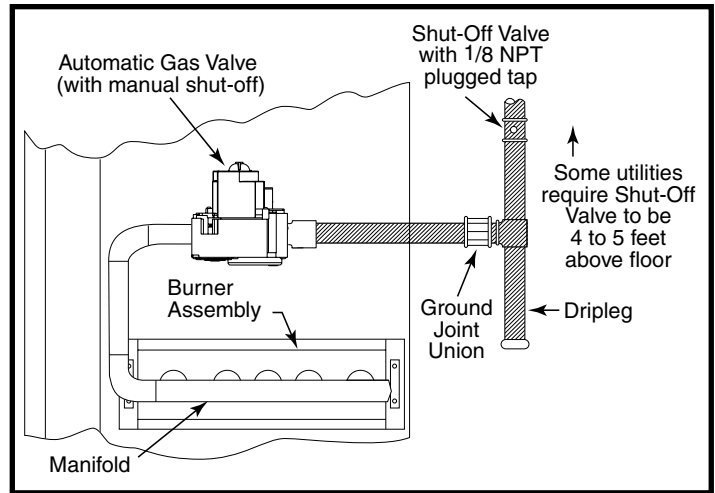

Figure 7. Typical Gas Hookup - Right Side Entry
- Some local codes require the installation of a manual main shut-off valve and ground joint union external to the furnace. The shut-off valve should be readily accessible for service and/or emergency use. Consult the local utility or gas supplier for additional requirements regarding placement of the manual main gas shut-off. See Figure 7 \(page 15\).
- A drip leg should be installed in the vertical pipe run to the unit (Figure 7).
This unit only has right side gas entry. When connecting the gas, provide clearance between the gas supply line and the entry hole in the unit's casing to avoid unwanted noise and/or damage to the unit. A typical gas service hookup is shown in Figure 7.